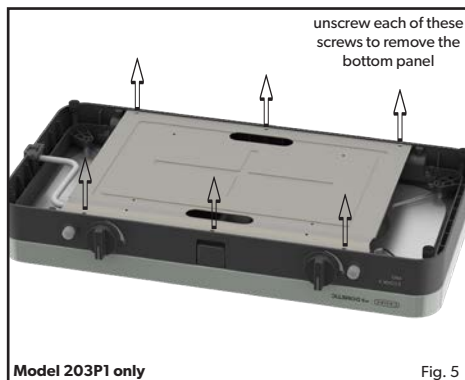
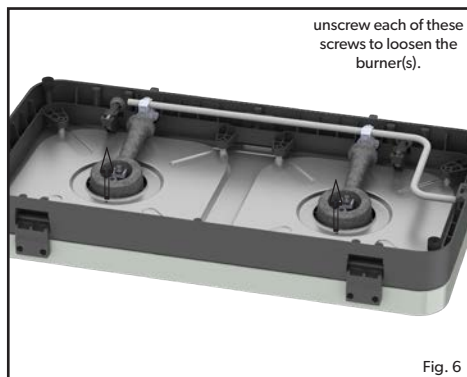
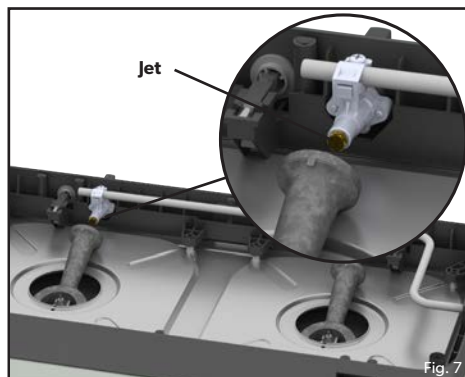

Fig. 5
Fig. 6
Fig. 7
- **To replace the jet:** Remove any cooking surfaces, close the lid and turn the appliance upside down. Gently unscrew the bottom panel by removing the screws (Fig. 5)(Only for 203P1 models). Unscrew the screw for the affected burner(s) (Fig. 6), carefully loosen and drop the burner as illustrated, to expose the jet. Note that the burner is connected to the piezo cable, after replacing the jet and reassembling, check that this cable is still connected. The jet can now be seen on the valve, remove the jet using a suitable spanner (Fig. 7). Do not use pliers on the jet as this may damage the jet, making it unusable or impossible to remove. Screw the new jet into the valve. Do not over-tighten as this may damage the jet.